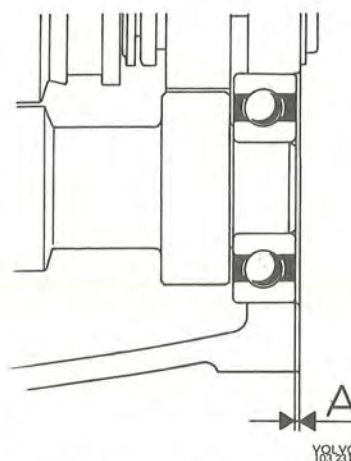

Fig. 4-31. Clearance for intermediate shaft
8. Turn the gearbox with the rear end upwards. Drive forwards the intermediate shaft so that its front bearing lies against the clutch casing. Fit in shims for the intermediate shaft rear bearing so that they lie evenly with or up to .05 mm (.002") under the rear end (see A, Fig. 4-31).